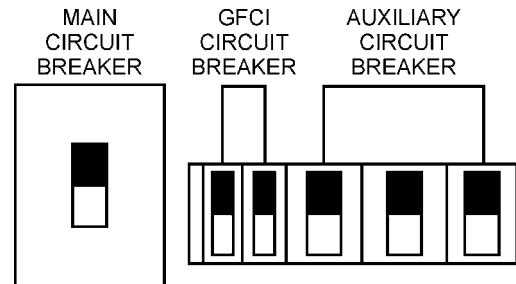

Figure 51. Main, Aux. and GFCI Circuit Breakers (ON)
12. Place the **main**, **GFCI**, and **aux.** circuit breakers in the **ON** position (Figure 51).